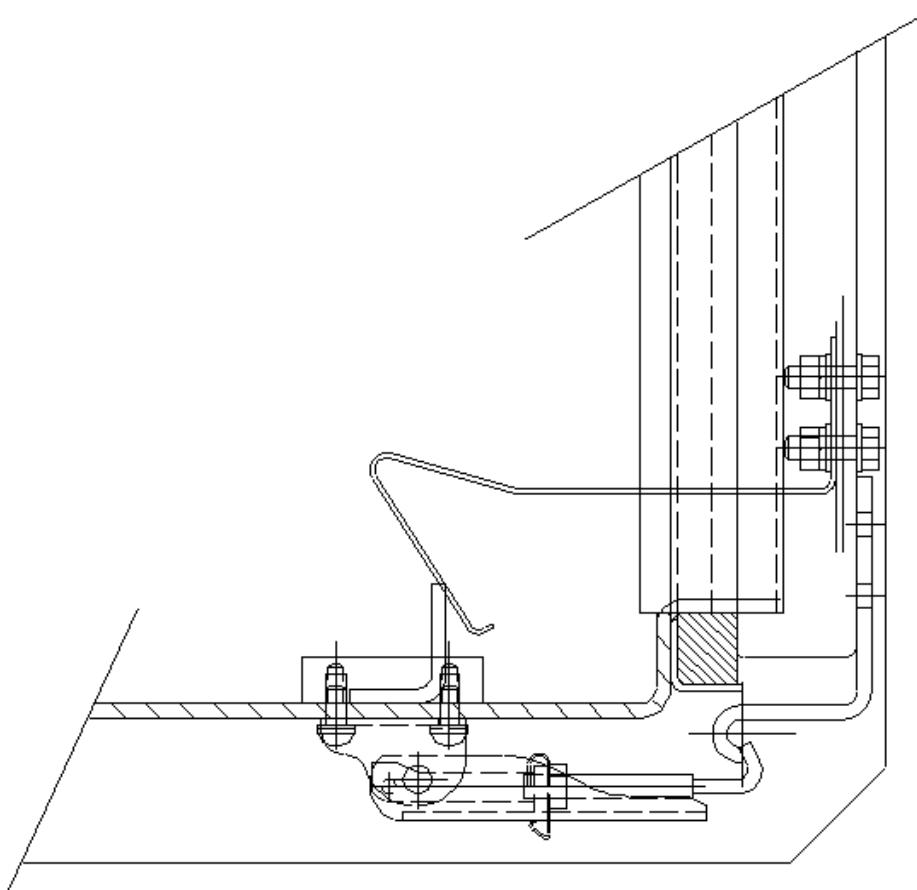

Figure 4-2: Latch Adjustment
- (1) Place the Arc Chute into the contactor base.
- (2) Return the four locking levers one by one to the Locked position.
- (3) Secure the arc chute to the bus bars and torque the four M4 bolts to 14 Nm (10.3 ft.-lbs.).
9. Latching Hardware Adjustment. See Figure 4-2.